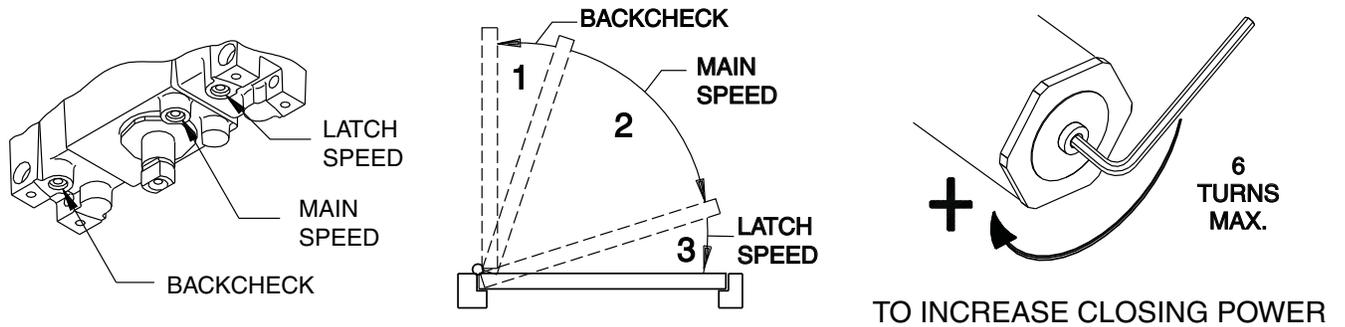

Figure 3
FOR CONCEALED WIRING: See Fig. 3 on page 3.
4. Making wiring connections at this time. Connect two black wires to input voltage (polarity not important). Green wire **MUST** be connected to an earth ground. (See Fig. 3 & 4 on page 3)